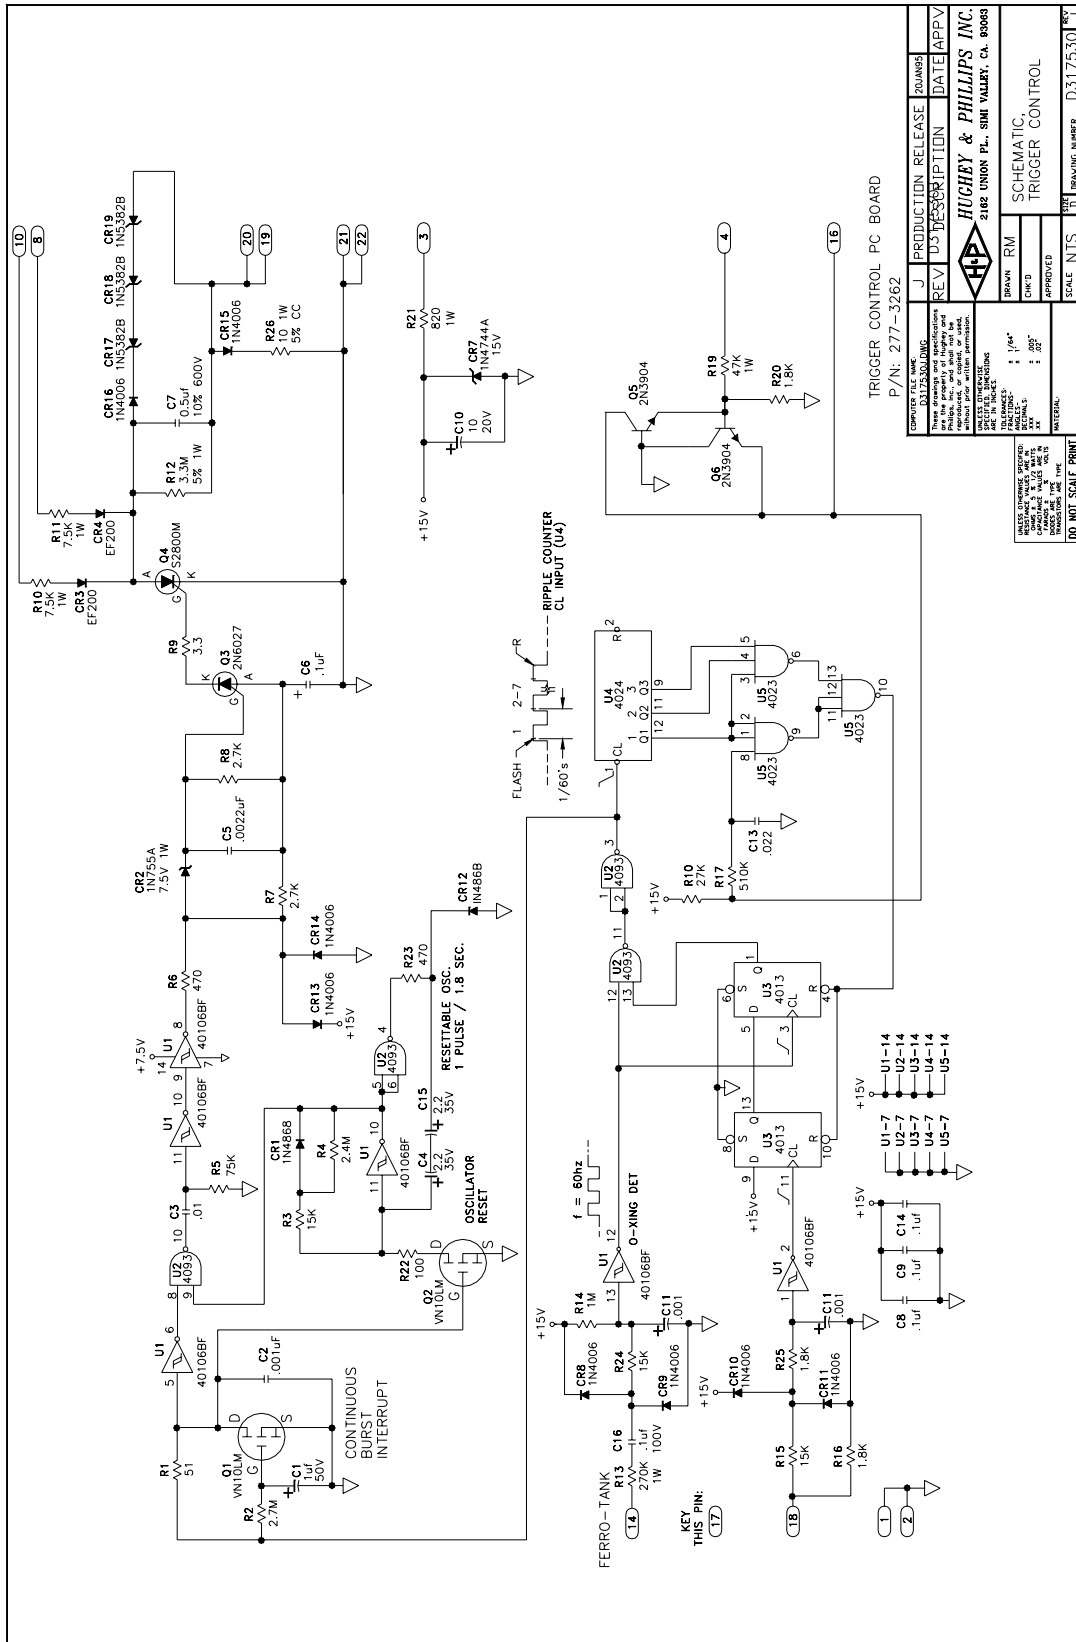

Figure 4-4: Trigger Control Board Schematic
4.2.1.2 Trigger Control Printed Circuit Board (Figure 4-4)
The trigger circuit energy is derived from terminals T1-6 and T1-2 of T1 through a rectifier circuit on Trigger Control printed circuit board A2. This trigger energy is stored in a $0.5\mu\text{F}$ capacitor (C7 on Figure 4-4) whose charge path is through the primary of the high voltage trigger transformer T2 to ground. The flash timing pulse (sync pulse) from the Controller goes in the Trigger Control board on pin 18 and fires a Silicon Controlled Rectifier (SCR). This discharges the $0.5\mu\text{F}$ capacitor through the high voltage trigger transformer primary, producing a high voltage pulse on the secondary which fires flashtube V1. The recharge current for the $0.5\mu\text{F}$ capacitor is limited by a series resistor to a value below the hold in current of the SCR so that it turns off, allowing the $0.5\mu\text{F}$ capacitor to charge again in time for the next flash.